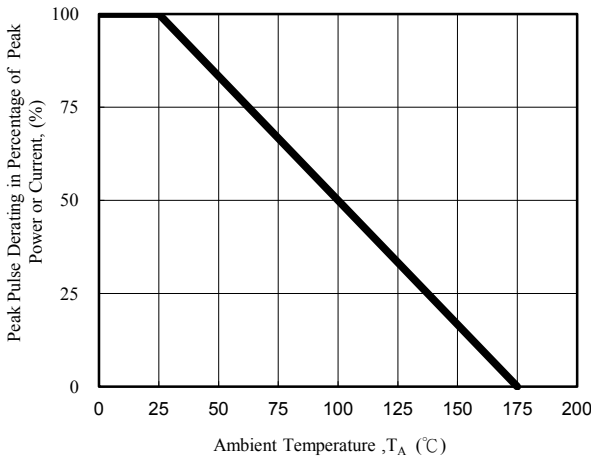
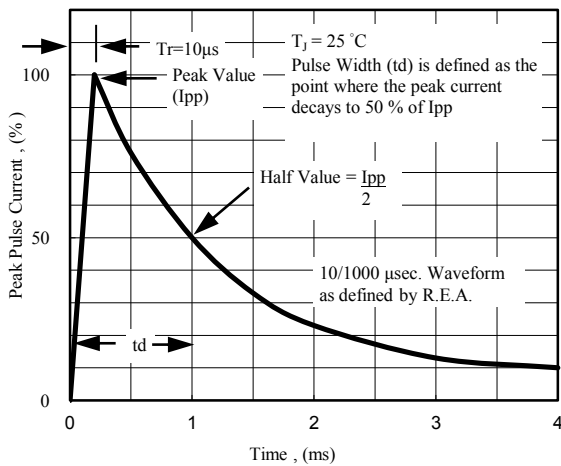

Fig. 1 - Pulse Derating Curve
Fig. 5 - Pulse Waveform
(1)Non-repetitive current pulse per Fig.5 and derated above $T_A = 25^\circ\text{C}$ per Fig.1